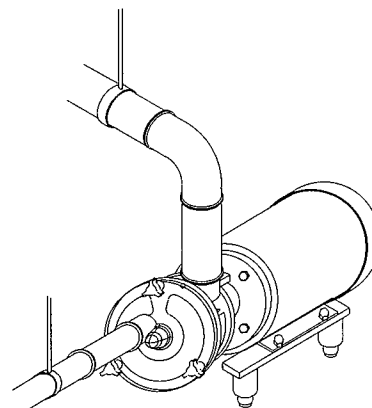

Figure 1
- Properly support and align the suction and discharge piping to prevent stress at pump connections. (**Figure 1**)